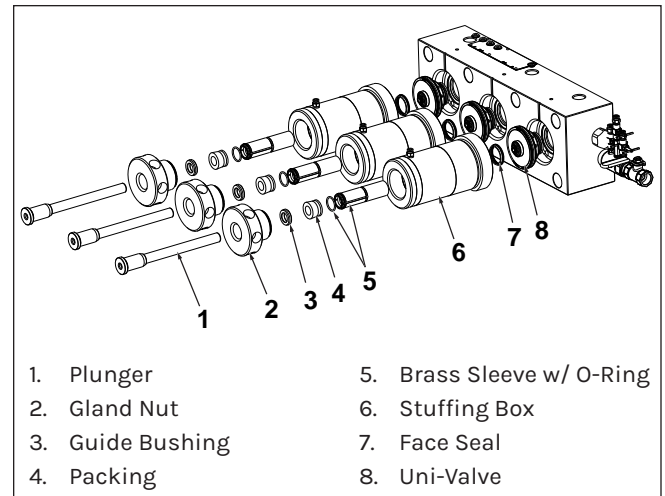
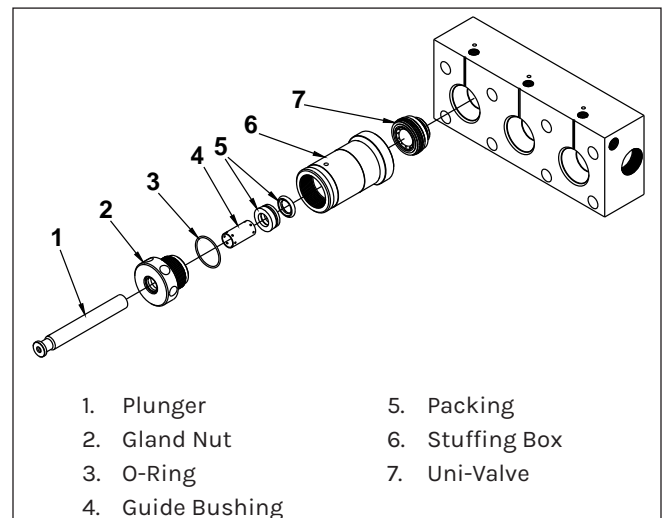

Figure 92: 15K/20K Fluid End (Some Components Not Shown).
Figure 93: 40K Fluid End (Some Components Not Shown).
Note: On 40K fluid ends, the brass sleeve (Figure 92) inside the stuffing box does not need to be removed unless the plunger shows evidence of rubbing on the sleeve.
11. Remove the O-ring (Figure 93) from the gland nut.
3. Place the new packing and guide bushing onto the plunger. Orient the packing as shown in (Figure 92) for 15K/20K and (Figure 93) for 40K.